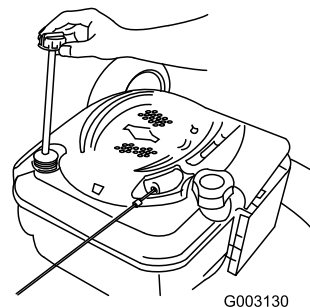

Figure 40
2. Remove the dipstick (Figure 40).